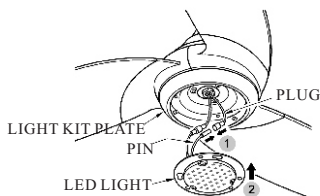

FIG.15
4. Plug together light kit wires from fan to light kit wires from LED light (see Fig.15)